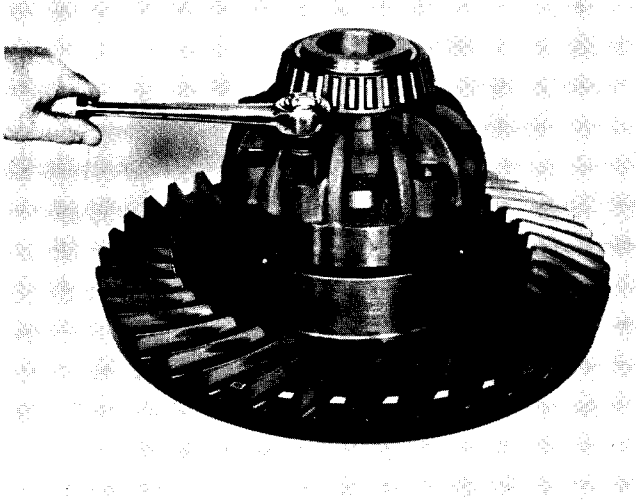

FIG. 117
11. Install four case bolts in alternate holes and tighten them evenly until all are seated, taking care that NoSPIN parts do not bind (Fig. 117). Install remaining bolts and tighten all bolts to specified torque as shown in Fig. 105.